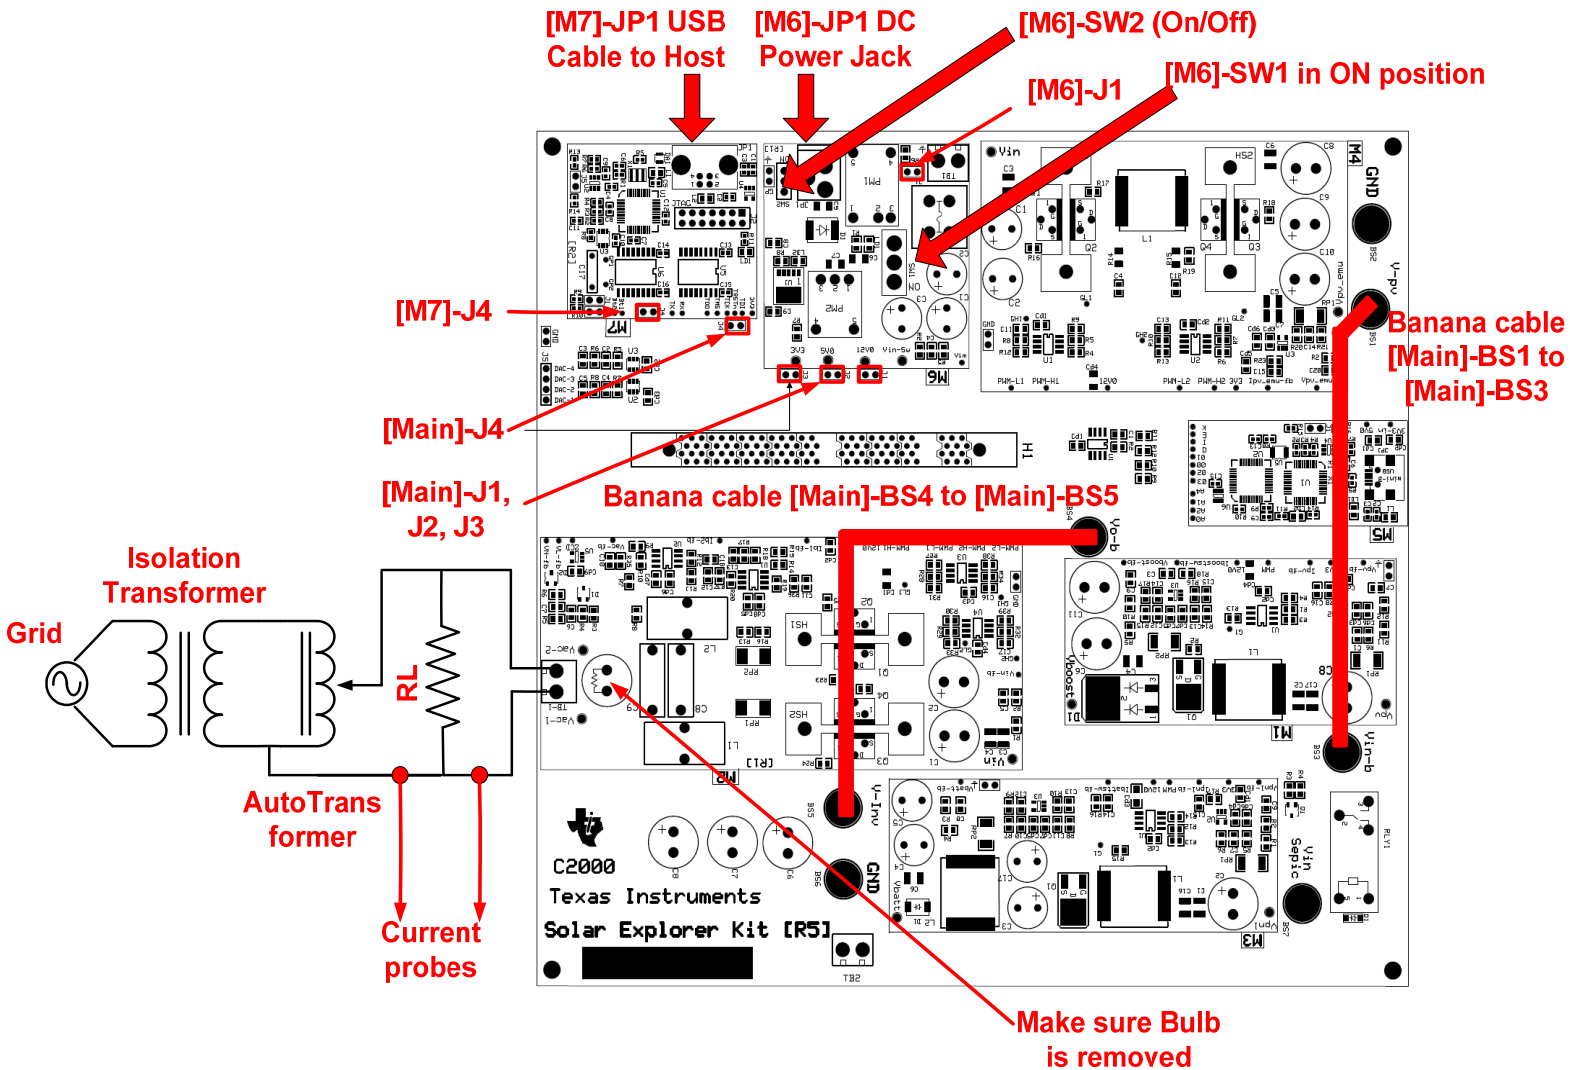

Fig 36 Hardware Setting for Build 3
- Fig 36 shows the hardware settings for the Build 3 test.
- First move the autotransformer to 0 setting and make connection with the resistive load and the solar explorer board with the grid as shown in the Fig 36.